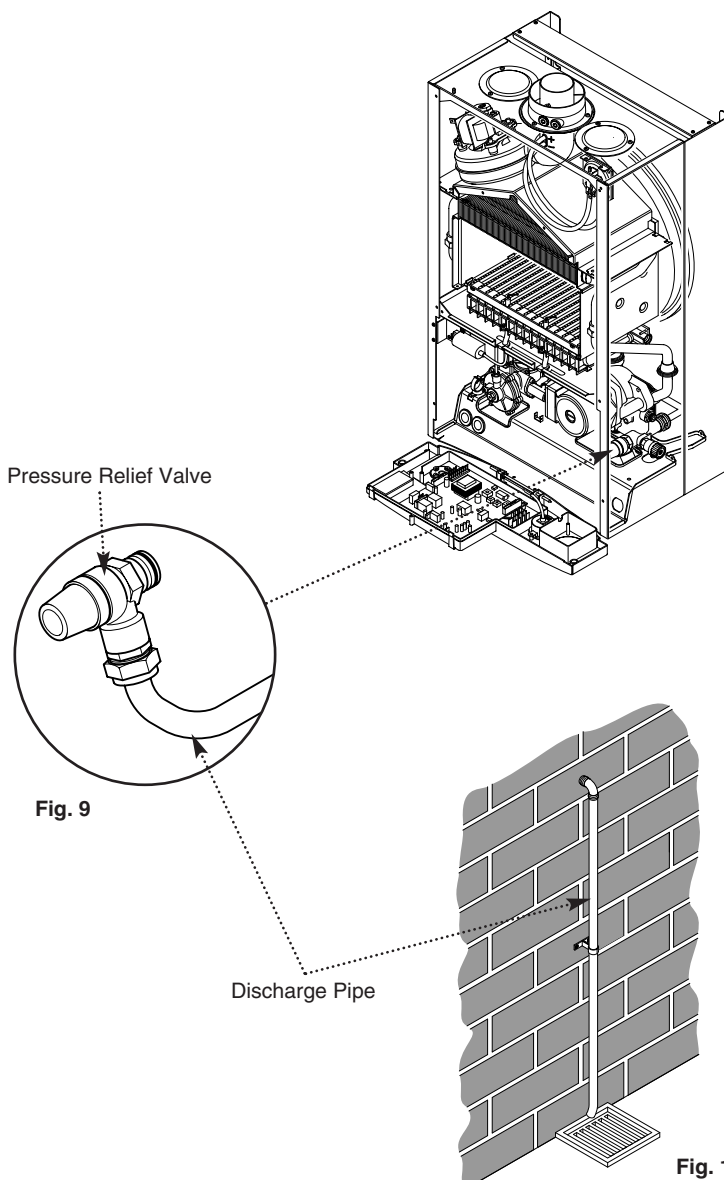

Fig. 10
2. The pressure relief discharge pipe should be not less than 15mm dia, run continuously downward, and discharge outside the building, preferably over a drain (Fig. 10). It should be routed in such a manner that no hazard occurs to occupants or causes damage to wiring or electrical components. The end of the pipe should terminate facing down and towards the wall.